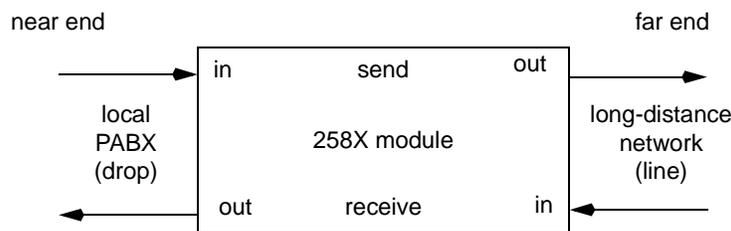

Figure 6-1 258-to-facility orientation
3. Program the module for the desired application. Information about front panel controls can be found in the *258 E1 Echo Canceller User Interface Document*. Information about SCPs can be found in this document in Section 4.See Figure 6-1 for an orientation illustration.
- 6.1 PCM alarms are indicated by front panel LEDs. They are grouped into two categories, send-in (drop) and receive-in (line). See Figure 6-1 and Tables 6-1 and 6-2 for alarm reference information.